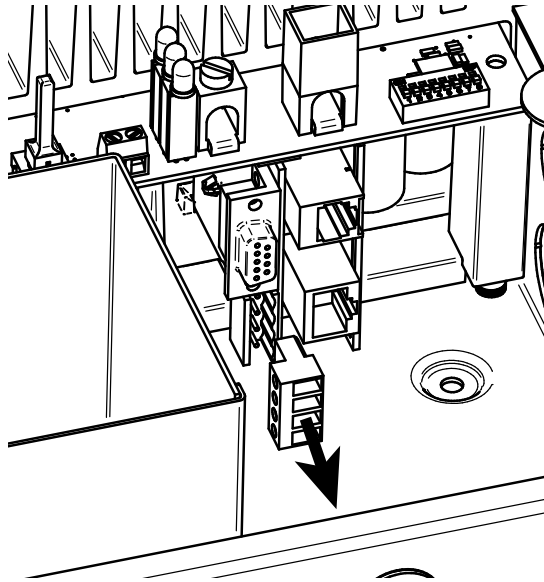

Figure 3-9. Removing the EIA-485 socket connector
The four (4) position EIA-485 connector on the TriStar MPPT must be removed to access the terminal screws. Remove the socket connector by firmly grasping the connector body and pulling away from the circuit board as shown in figure 3-9.